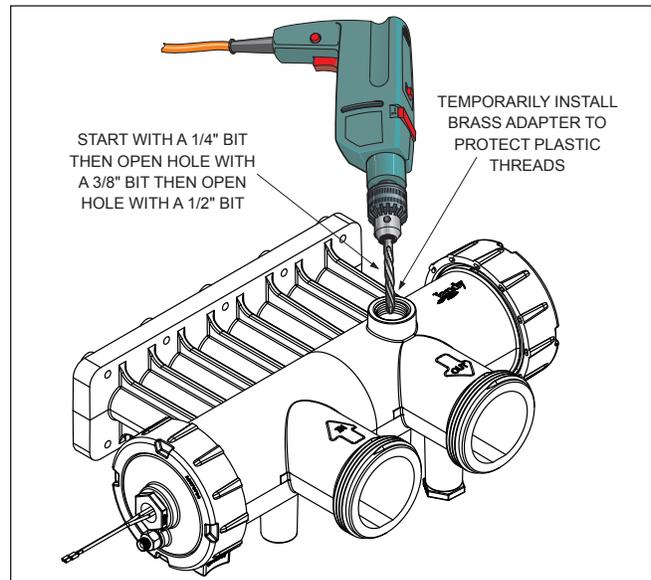

Figure 13. Drill Hole for Pressure Relief Valve
2. Using the countersink in the center of the blind hole as a guide, drill a 6.4 mm (1/4 inch) hole through the plastic. See Figure 13.